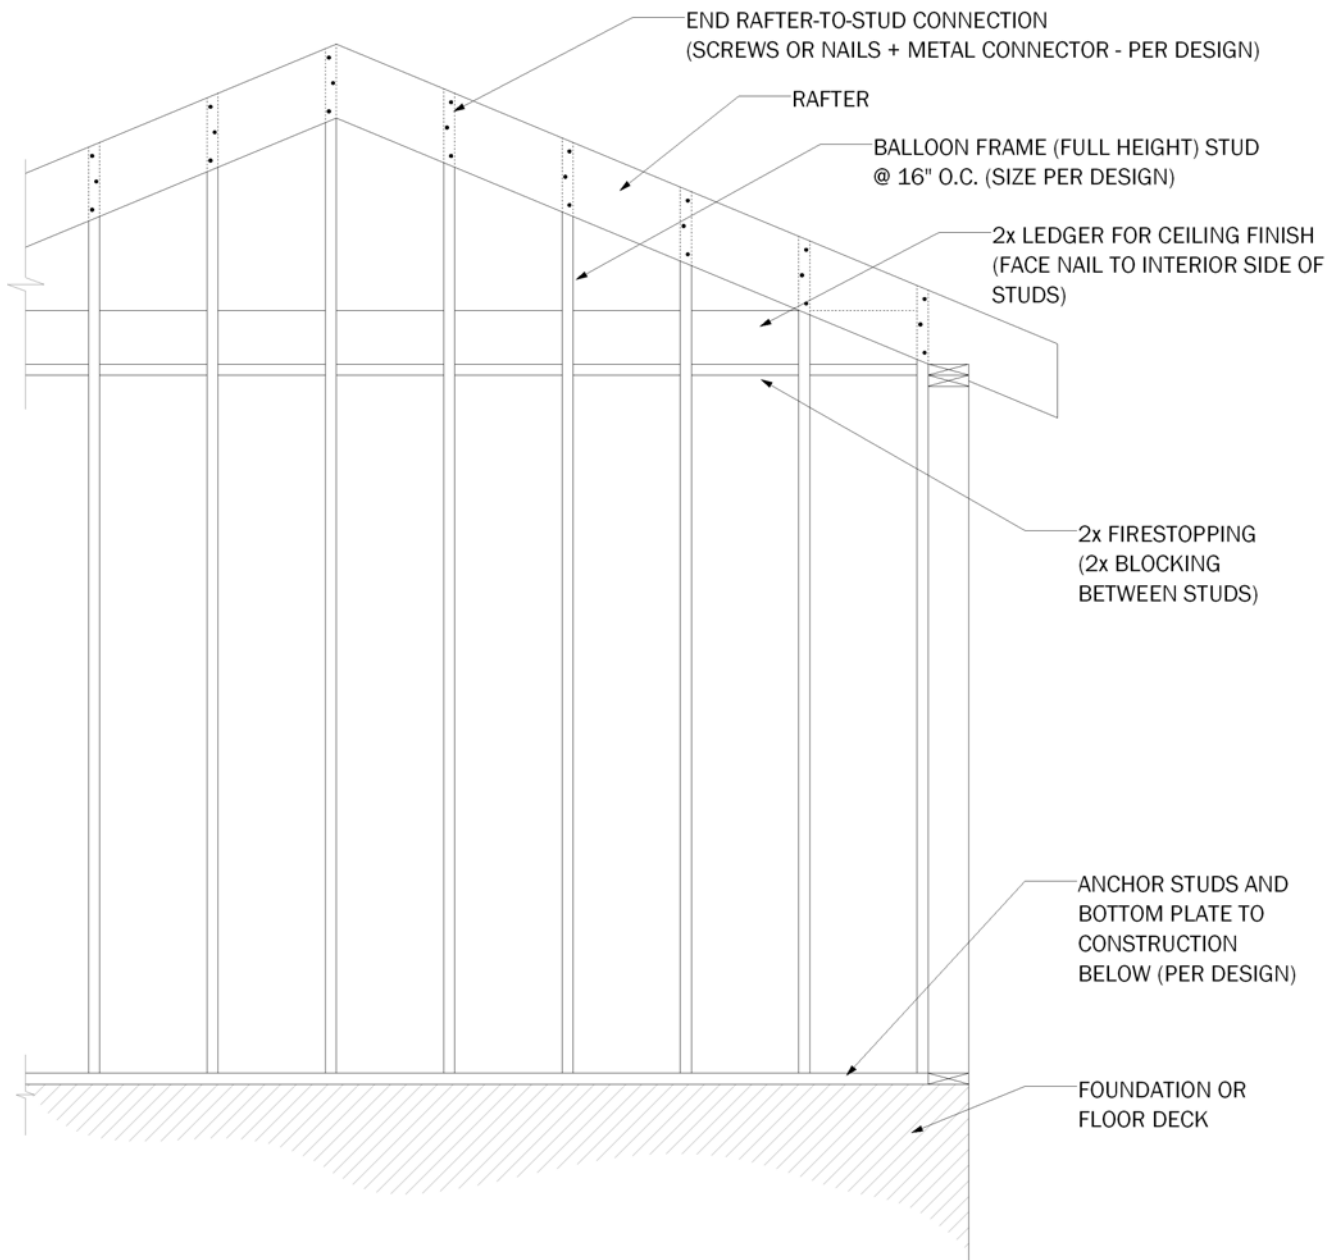

Figure 2 – Example of Balloon Frame Gable End Wall
3. Consider using balloon framing for gable end walls (see Figure 2).